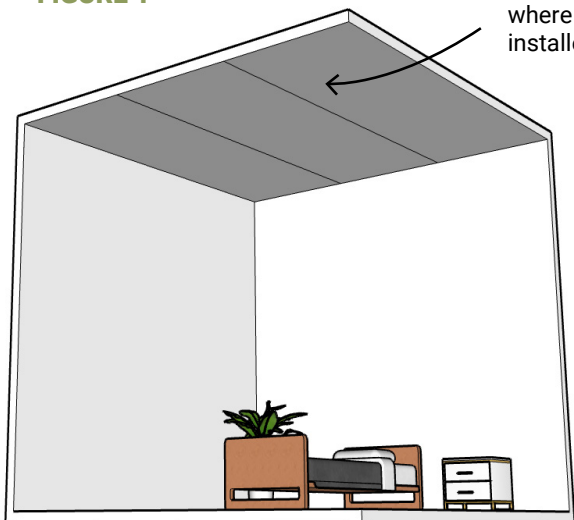

FIGURE 2
2. Apply a generous amount of PL Premium construction adhesive at the top and the ends of the beam (figure 2).